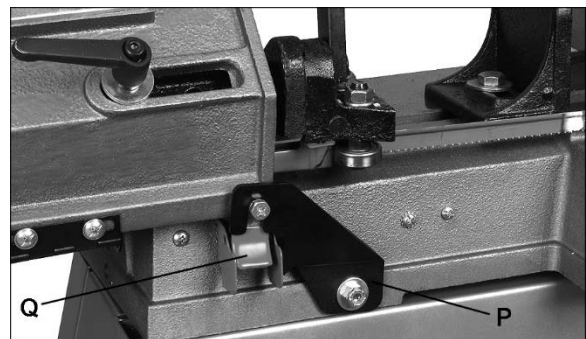

Figure 4
1. Remove shipping bracket (P, Figure 4) and adjust switch trip (Q) so that it will turn off switch when bow reaches down position. (Note: Switch trip is bendable for optimum positioning.)